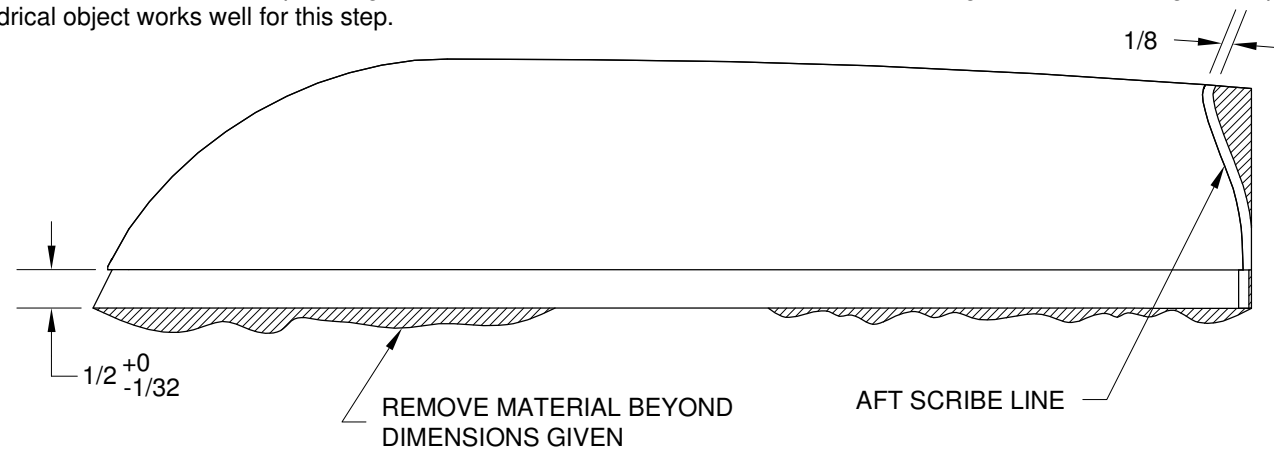

FIGURE 3:
Step 3: Trim any extra material from the recessed area of the VS-1213 V-Stab Tip Fairing per dimensions given in Figure 3.
Step 4: Trim the VS-1213 V-Stab Tip Fairing to within 1/8 inch of the aft scribe line as shown in Figure 3. Coarse 80 grit sandpaper on a cylindrical object works well for this step.
To resolve interference issues, recheck the recessed area measurement with the dimension given on Page 12-02, Figure 3. Remove the minimum amount of material necessary, within that dimension, to achieve a flush fit to the top edge of the main skin.